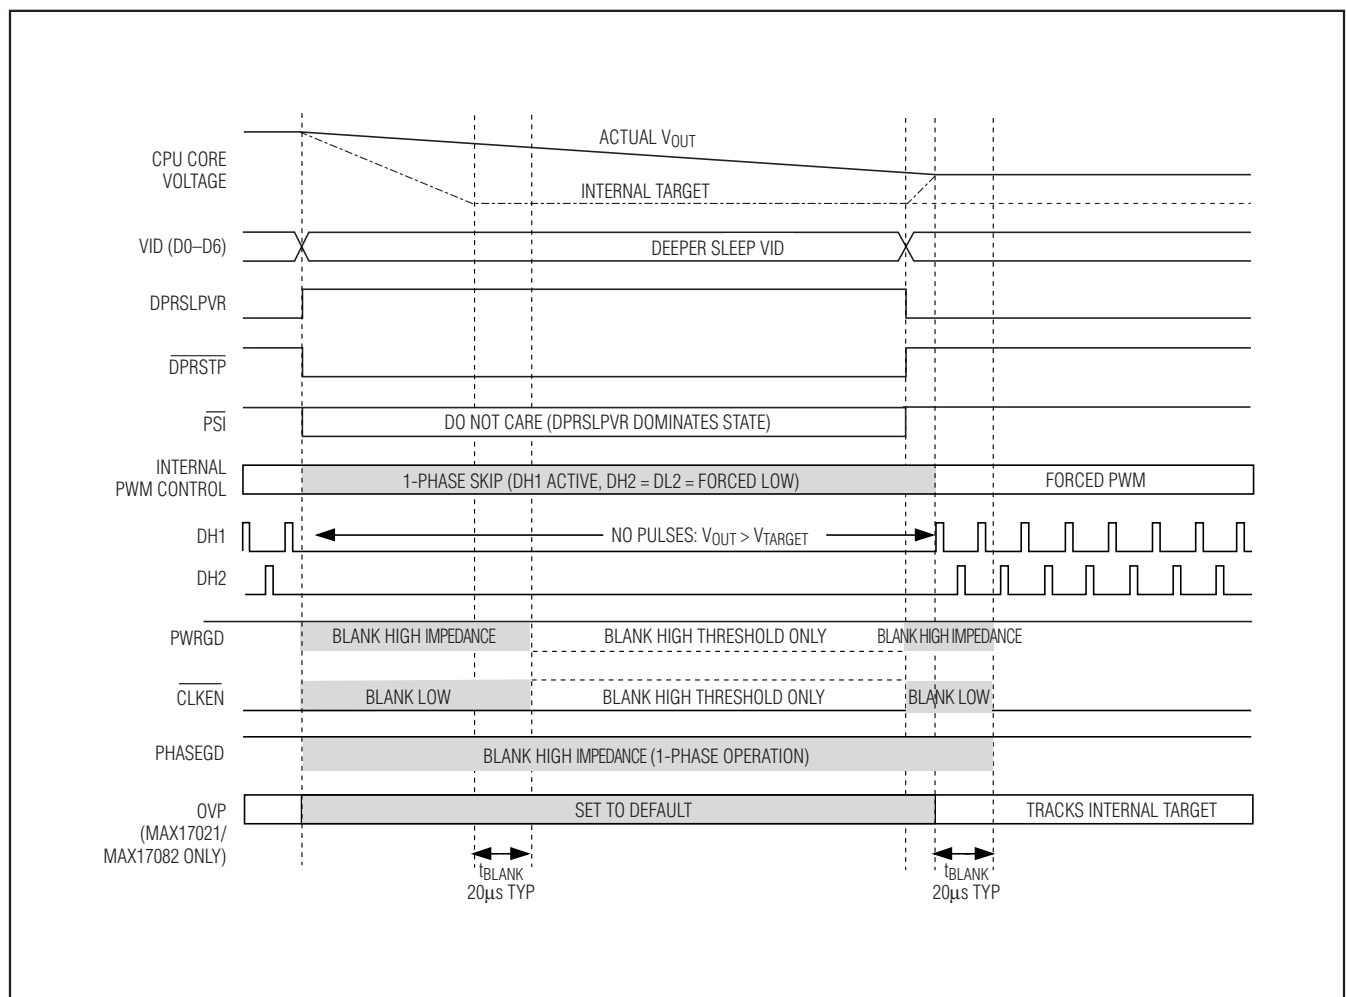

Figure 5. C4E (C4 Early Exit) Transition
When DPRSLPVR goes high, the MAX17021/MAX17082/MAX17482 immediately disable phase 2 (DH2 and DL2 forced low), blank PHASEGD high impedance, and enter pulse-skipping operation (see Figures 5 and 6). If the VIDs are set to a lower voltage setting, the output drops at a rate determined by the load and the output capacitance. The internal target still ramps as before, and PWRGD remains blanked high impedance until 20 $\mu\text{s}$  after the output voltage reaches the internal target.
- **Fast C4E Deeper Sleep Exit:** When exiting deeper sleep (DPRSLPVR pulled low) while the output voltage still exceeds the deeper sleep voltage, the MAX17021/MAX17082/MAX17482 quickly slew (50mV/ $\mu\text{s}$  min regardless of  $R_{\text{TIME}}$  setting) the internal target voltage to the DAC code provided by the processor as long as the output voltage is above the new target. The controller remains in skip mode until the output voltage equals the internal target. Once the internal target reaches the output voltage, phase 2 is enabled. The controller blanks PWRGD, PHASEGD, and  $\overline{\text{CLKEN}}$  until 20 $\mu\text{s}$  after the transition is completed. See Figure 5.